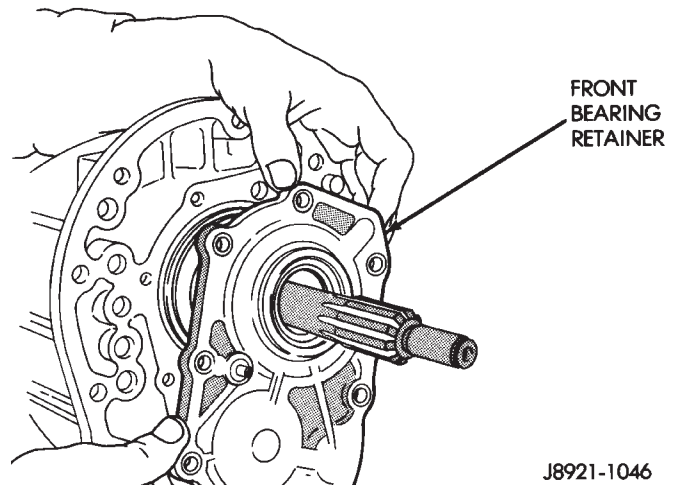

Fig. 16 Front Bearing Retainer Removal
(1) Remove bearing retainer bolts and remove retainer (Fig. 16).